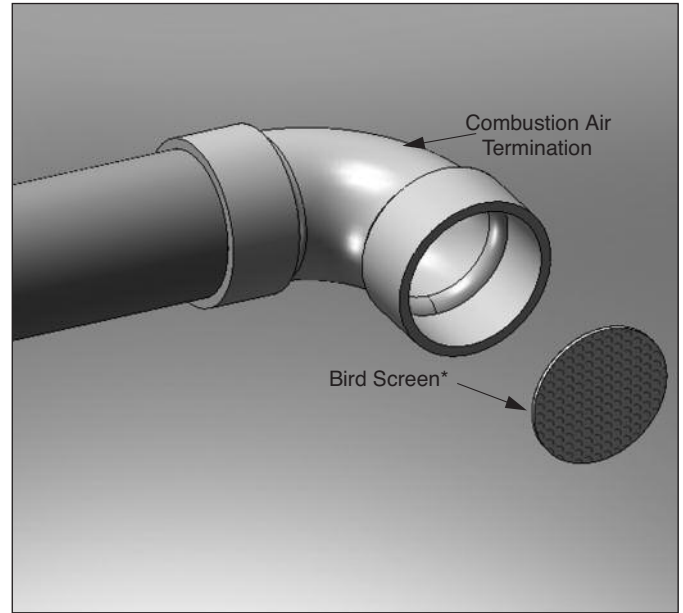

Fig. 19: Horizontal Combustion Air Bird Screen Installation with 90° Elbow Termination
1. The vent and combustion air terminations must include a factory supplied "bird screen" installed as shown in Fig. 4 page 8 & Fig. 19 page 15.